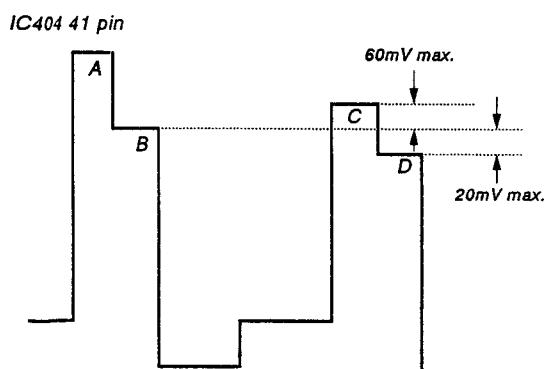

Fig. 17
- 4) Using **R-Y LEVEL NTSC 358**, adjust so that the tops of the waveform line up as in the diagram below. (Fig. 17)
- 4) Adjust [R-Y LEVEL NTSC 443] in the same manner as 6-4). (Fig. 17)